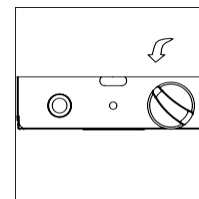

Figure 1
3. Push the control knob in and turn counter-clockwise to stop over the "Pilot" position. Continue to keep the knob pushed inward on this position as you proceed to the next step. (Figure 1)